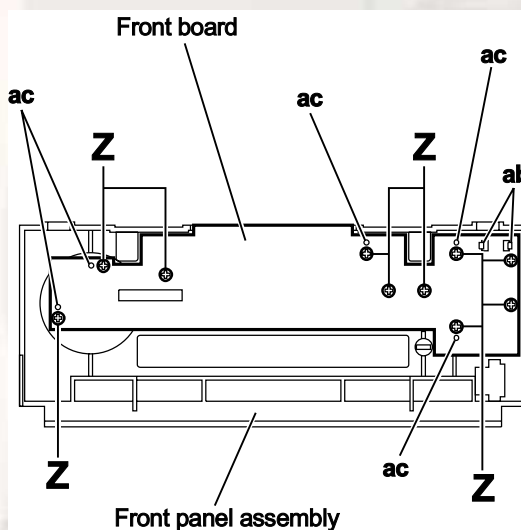

Fig.25
- (2) From the inside of the front panel assembly, remove the ten screws **Z** attaching the front board. (See Fig.25.)
- (3) Release the two claws **ab** of the indicator attaching the front board and take out the front board from the front panel assembly. (See Fig.25.)
When attaching the front board, attach the screws **Z** after fitting the holes of the front board to the projections **ac** of the front panel assembly. (See Fig.25.)